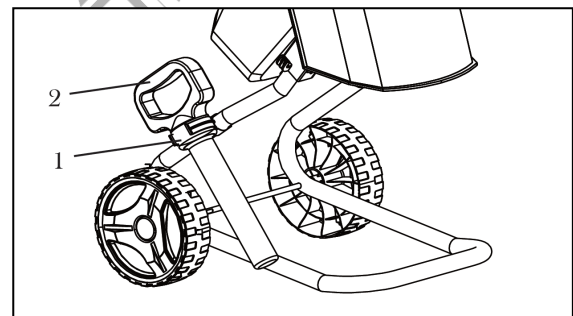

Fig. 2
1. Clip the paddle holder (Fig. 2 - 1) onto one side of the stand.
2. Clip the paddle (Fig. 2 - 2) into the paddle holder.